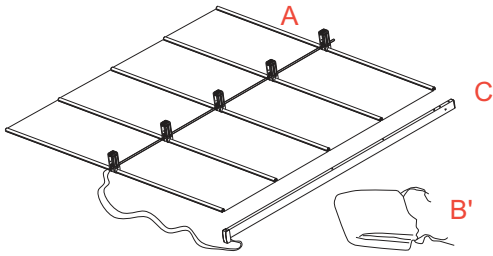

Fig. 2A
(Fig. 2A) Nr 1 **sliding canopy (A)** with the **crossbar (C)** and **protection cover (B')**